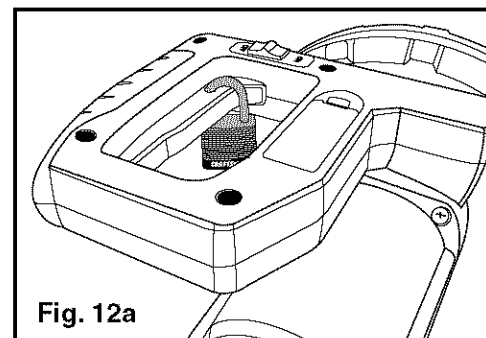

Fig. 12a
**NOTE:** Make the ON/OFF trigger switch childproof. Insert a small padlock or chain with padlock through the holes in the ON/OFF trigger switch, locking the switch and preventing children or other unauthorized users from turning on the saw (Fig. 12a).